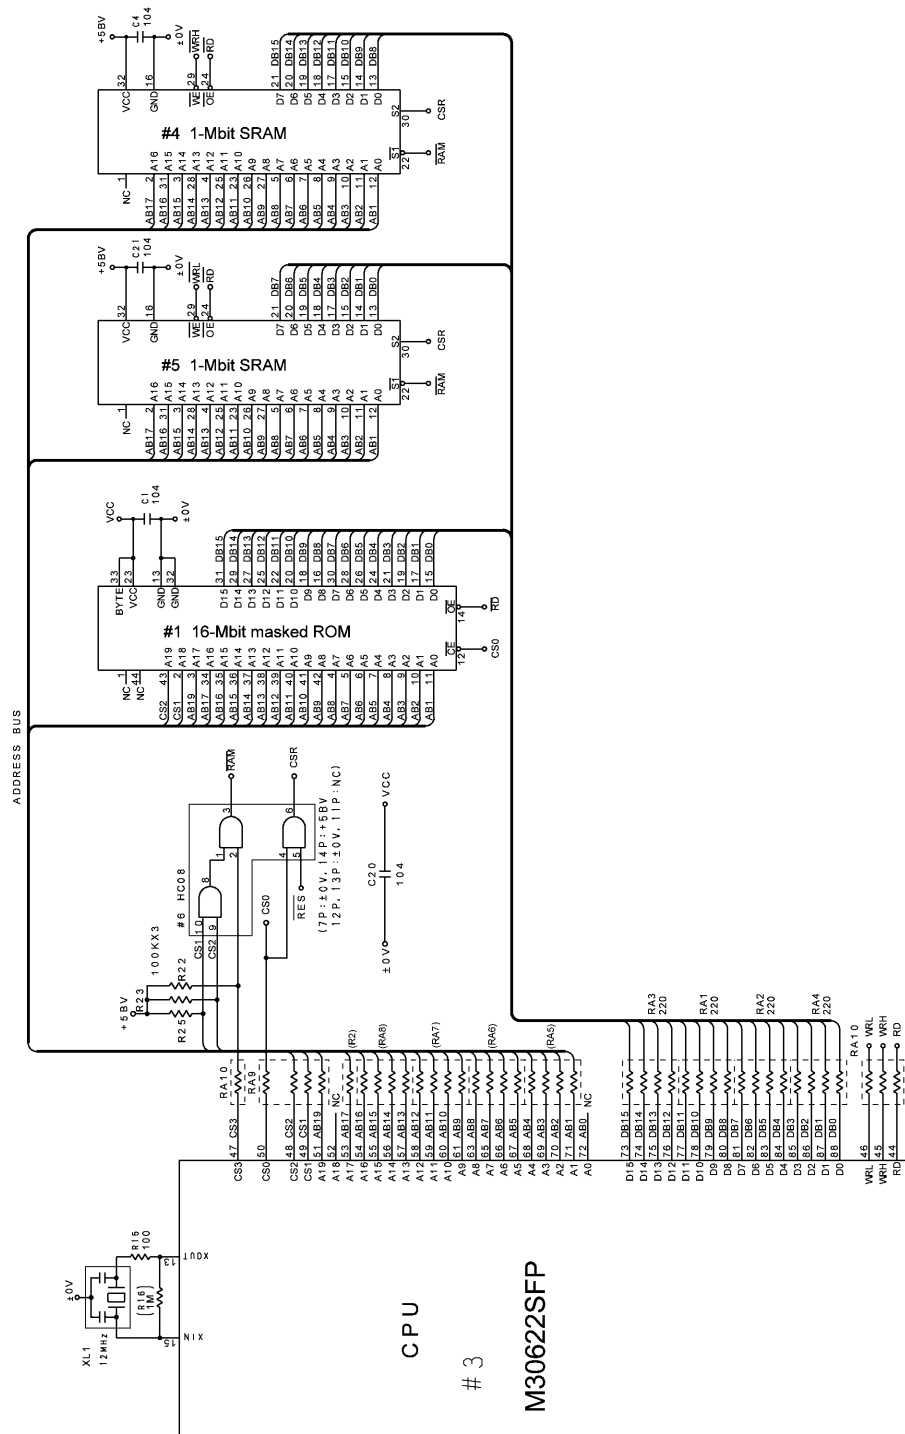

Figure 3.2-2 CPU, ROM, and SRAMs
3.2.3 ROM (See Figure 3.2-2.)
3.2.4 RAMs (See Figure 3.2-2.)